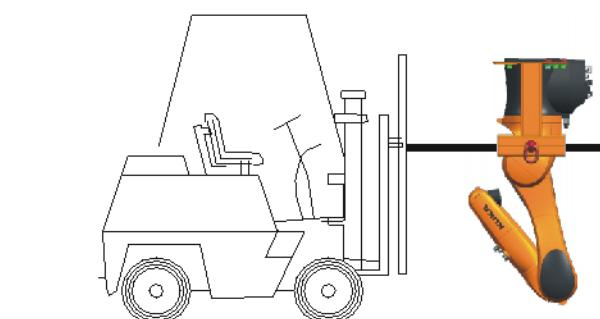

Fig. 8-12: Lifting the Load Lifting Attachment with a fork lift truck
11. Lift the Load Lifting Attachment with a fork lift truck (**>>> Fig. 8-12**).